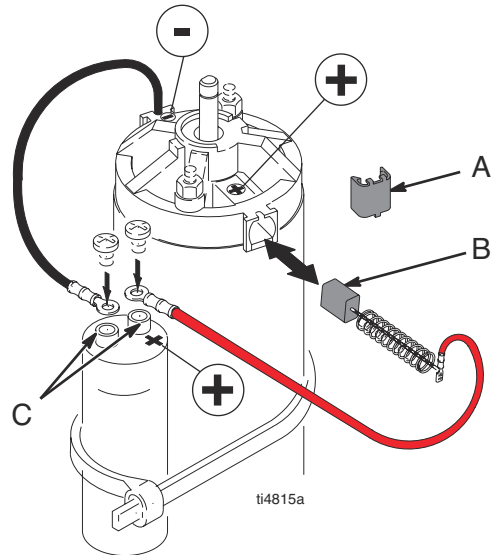

FIG. 4
5. Fig. 4. Pry off two brush caps (A). Tag locations of red (+) and black (-) motor leads.
7. Fig. 4. Insert brush (B). Push clip (A) until it snaps into place and secures brush.
8. Install red brush lead (+) and black brush lead (-) according to markings on the motor and capacitor. Install brush lead end to capacitor with screw (41).